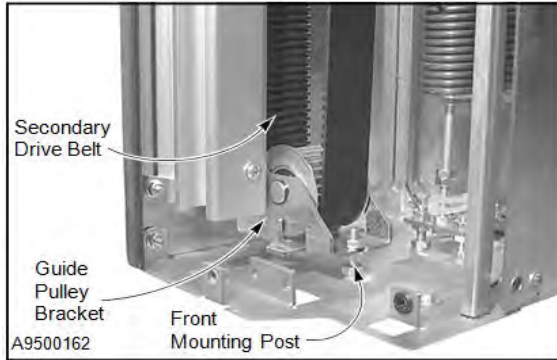

Figure 42
- 4 Release the tension on the secondary drive belt by loosening the nuts that tension the guide pulley bracket from the front & rear mounting post. (See Figure 42.)